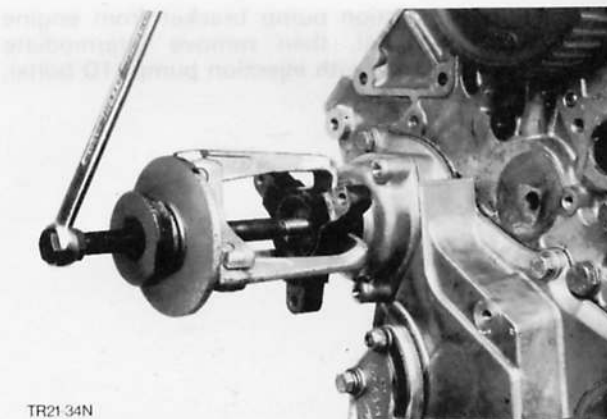

Fig. 52. Remove vacuum pump pulley
23. Remove vacuum pump pulley, Fig. 52, using standard extractor if necessary.